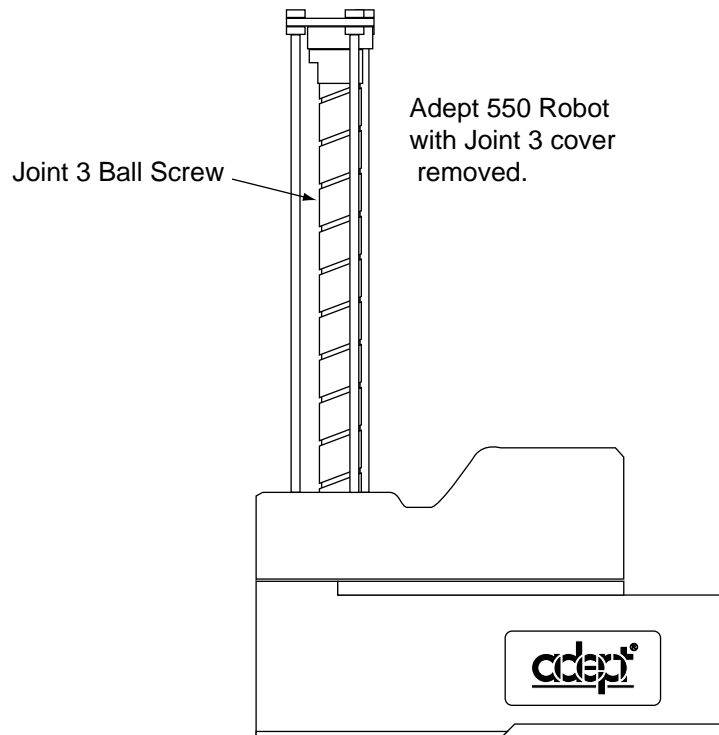

Figure 5-1. Lubrication of Joint 3 Ball Screw
2. Remove the Joint 3 cover by removing two nuts (using an 8 mm socket) on the top of the cover and lifting the cover up and off. See Figure 5-1.